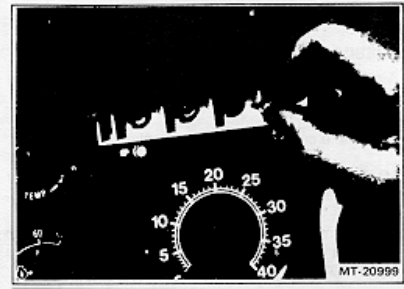

Figure 10 Removing Bulb From Front of Cluster
- 5 Light bulbs are plug-in type and are serviceable from either front or rear of instrument cluster (Figures 10 and 11).